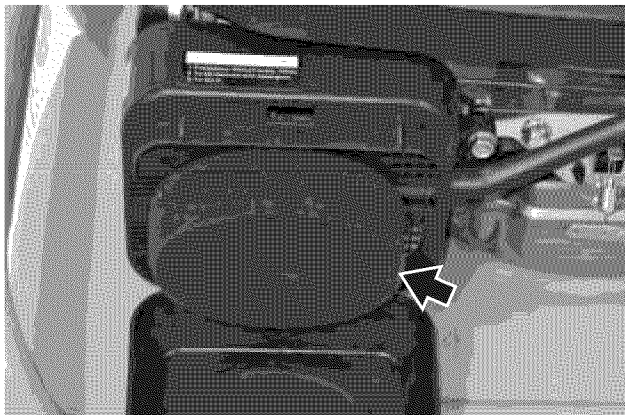

Figure 57 – Removing Air Filter Element
5. Remove the foam air filter element (see Figure 57).